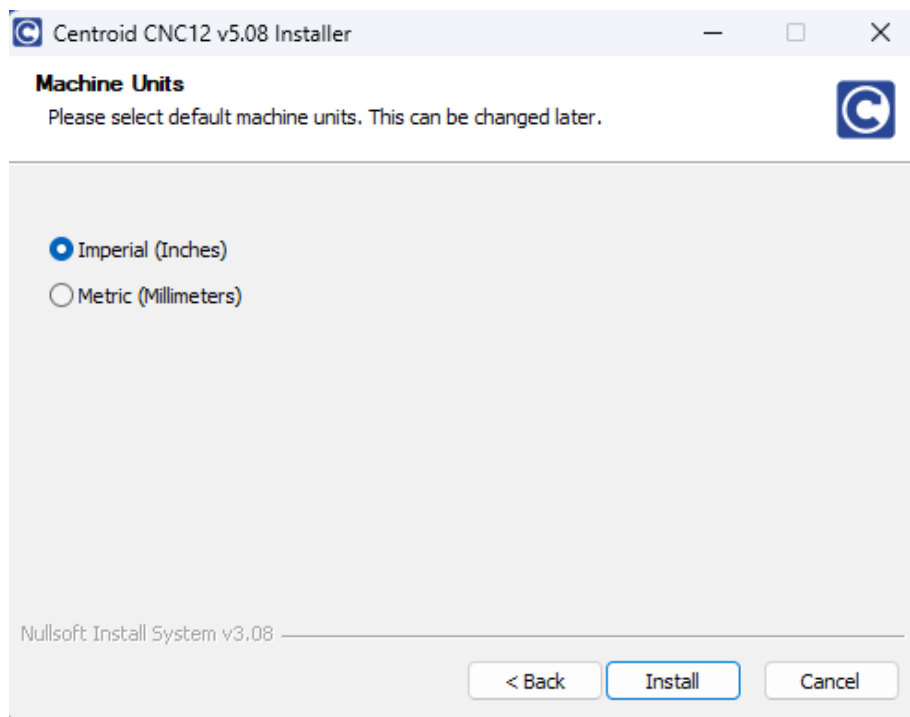

Figure 3.2.6
- 10. Select Units.** Select the default units by CNC12, either “Imperial” or “Metric” (Figure 3.2.6). Click “Install” to begin the installation.